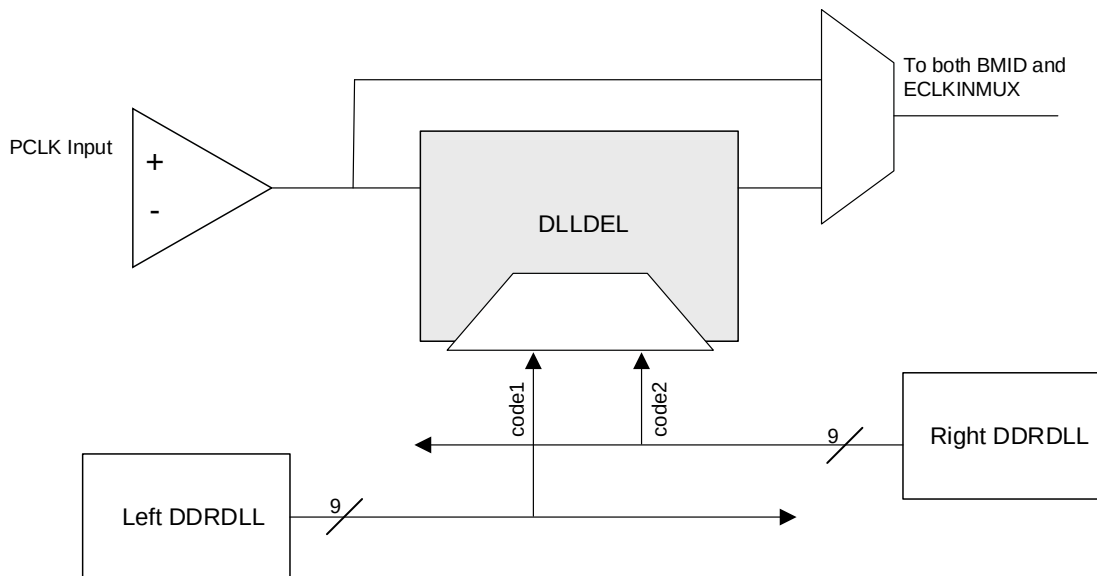

Figure 2.11. DLLDEL Functional Diagram
- The value is also sent to another target DLL, DLLDEL, which takes a primary clock input and generates a 90-degree shifted clock output to drive the clocking structure. This is useful in an edge-aligned Generic DDR interface, where 90-degree clocking needs to be created. Not all primary clock inputs have associated DLLDEL control. Figure 2.11 shows DDRDLL connectivity to a DLLDEL block (connectivity to DQSBUF blocks is similar).